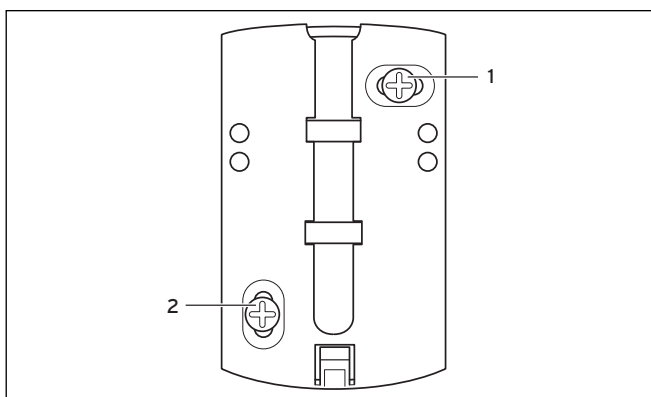

Fig. 4.3 Installing the wall mount
- ⇒ Mount the wall bracket using the two screws (1, 2) (see Fig. 4.3).